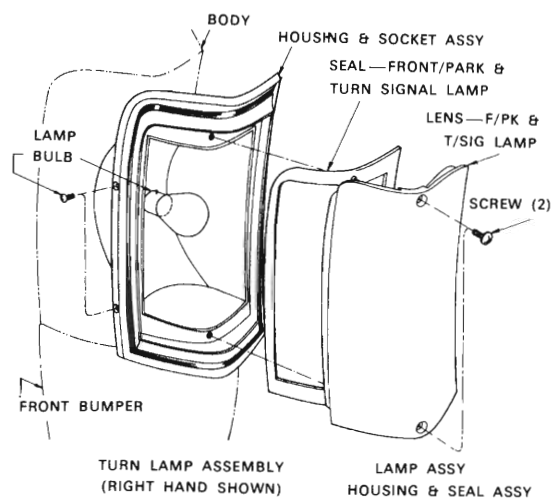

Fig. 9 - Front park and turn signal lamp (disassembled view)
(1) Remove the two screws attaching the lens to the lamp assembly and remove lens.
(2) Push in and turn bulb anti-clockwise, and remove bulb from holder (*refer Fig. 9*).
Remove the four screws attaching the lamp assembly to the front fender. Pull the lamp assembly out from the front fender and disconnect wire connections from bulb holder at rear of lamp assembly (*refer Fig. 9*).